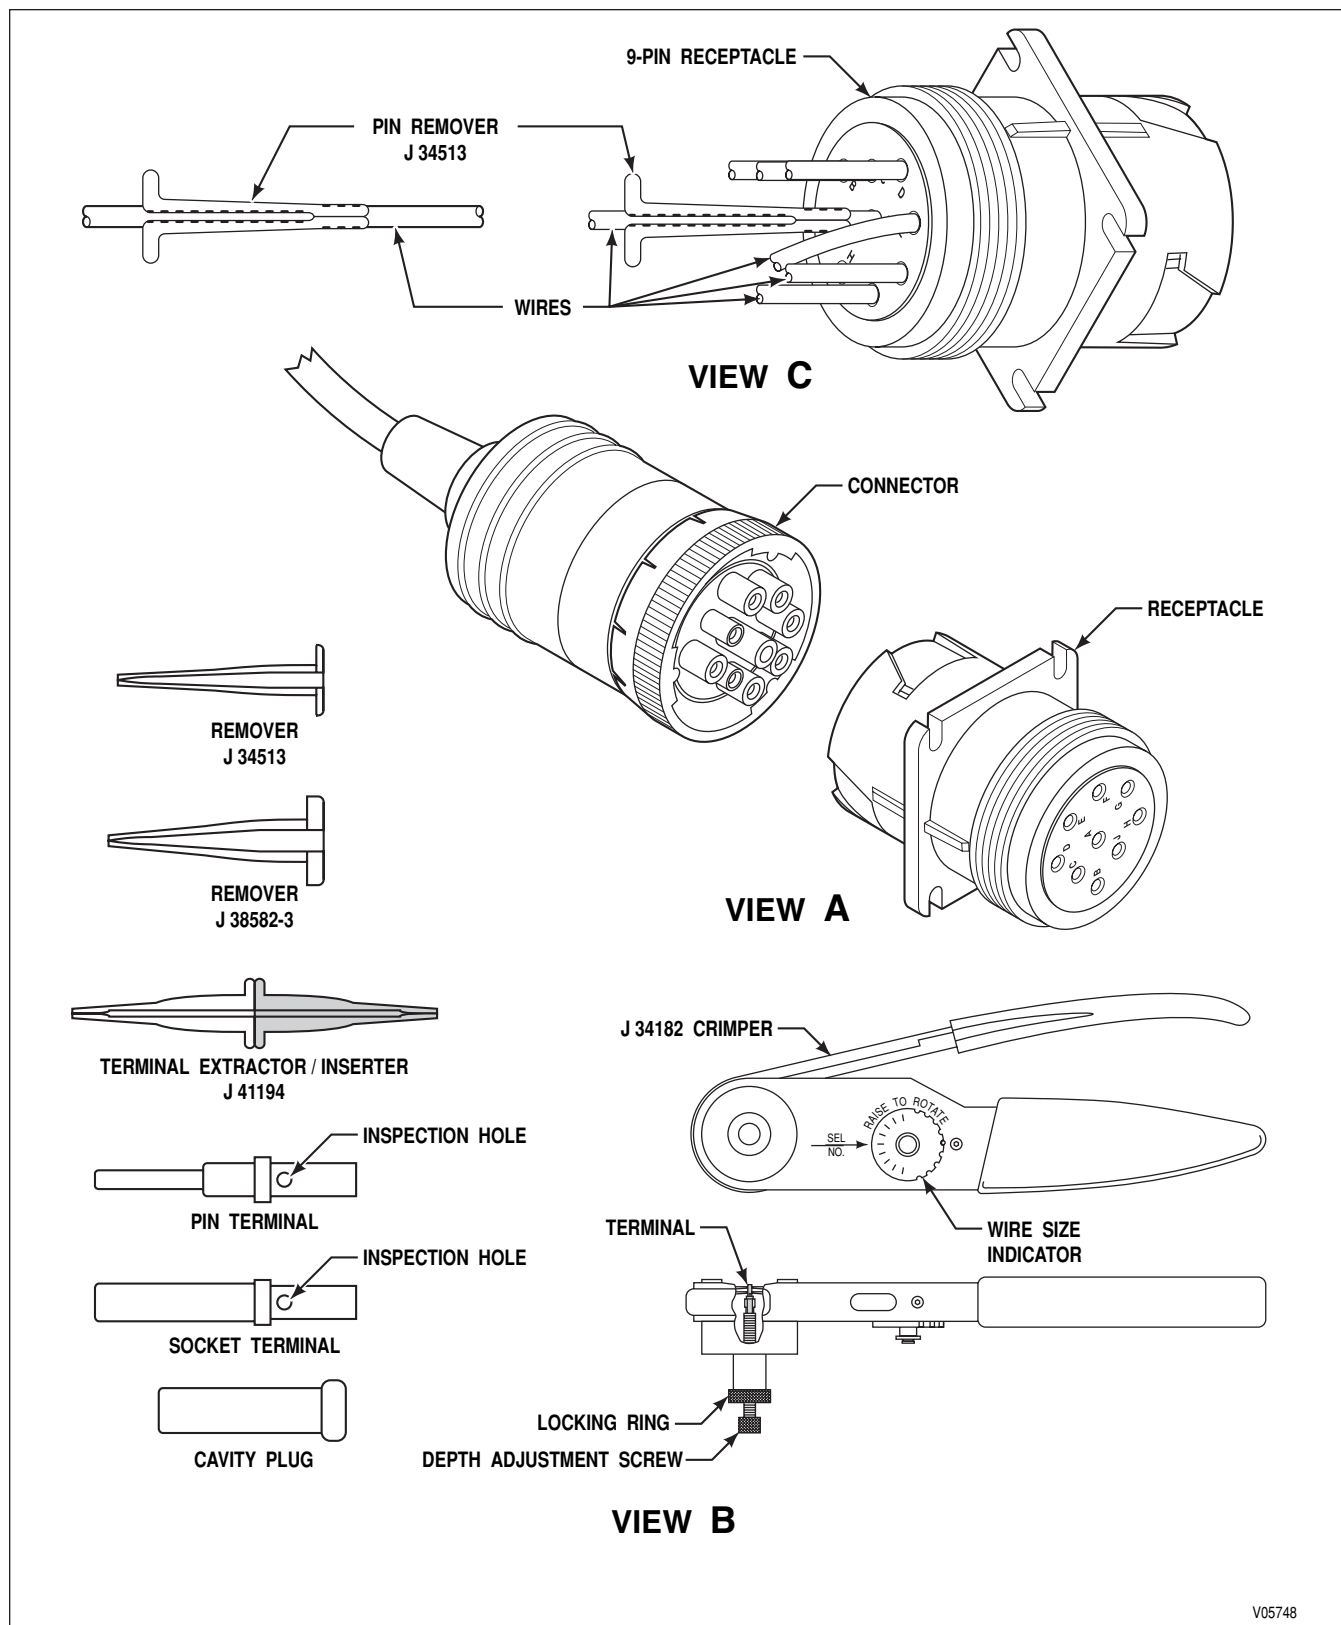

Figure E-8. Deutsch IPD/ECD Connectors (9-Way DDR)
A. Connector/Terminal Repairs (refer to Figure E-8)
B. Terminal Removal (refer to Figure E-8, View A)
C. Terminal Crimping (refer to Figure E-8, View B)